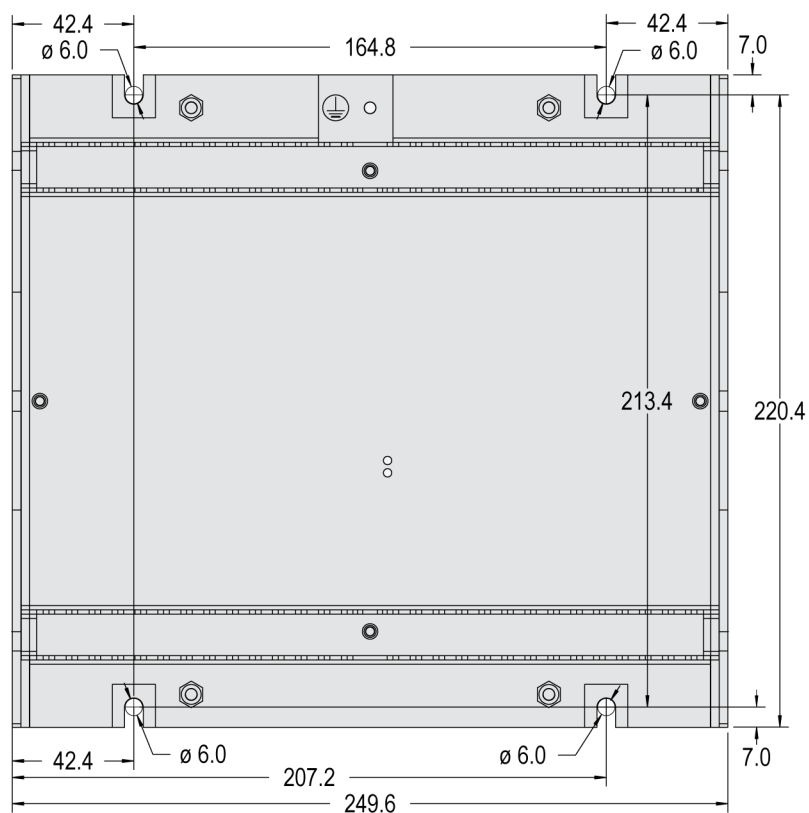

Fig. 10: Sheet metal housing - drill plan
1. ➤ Drill the holes according to the dimensions in Fig. 10 (dimensions shown in mm).